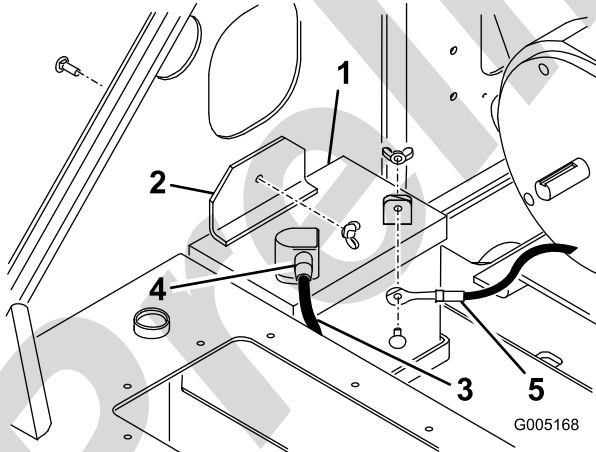

Figure 30
3. Remove the wing nut and bolt securing the battery clamp and strip (under the clamp) and remove the clamp and strip (Figure 30).
8. Install the battery into the chassis (Figure 30).
9. Secure the battery in the chassis (Figure 30).
10. Using the bolt and wing nut supplied with the battery, connect the positive (red) cable to the positive (+) battery post (Figure 30). Slide the rubber cover over the battery post.
11. Using the bolt and wing nut supplied with the battery, connect the negative (black) cable to the negative (-) battery post (Figure 30).